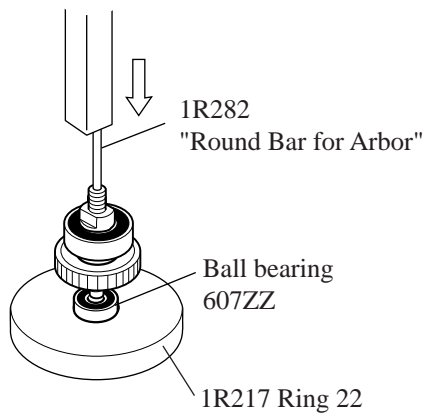

Fig. 11
- (2) Mount ball bearing 607ZZ by pressing with arbor press as illustrated in Fig. 11.